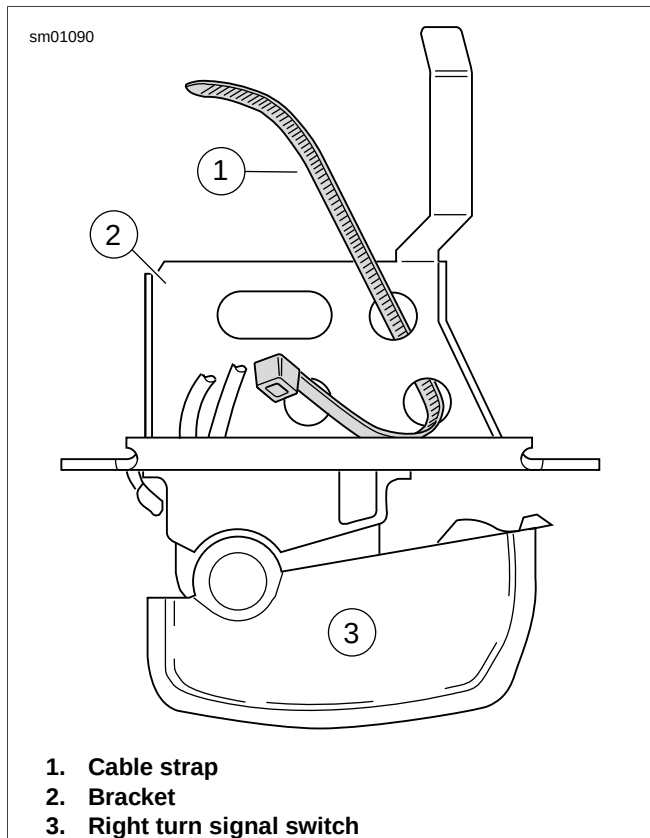

Figure 6-146. Insert Cable Strap in Switch Bracket
1. See Figure 6-146. Insert tapered end of **new** 7.0 in. (177.8 mm) cable strap (1) into round hole in turn signal switch bracket (2) and then feed back through using the adjacent hole. Reserve the oblong hole for the bracket screw.